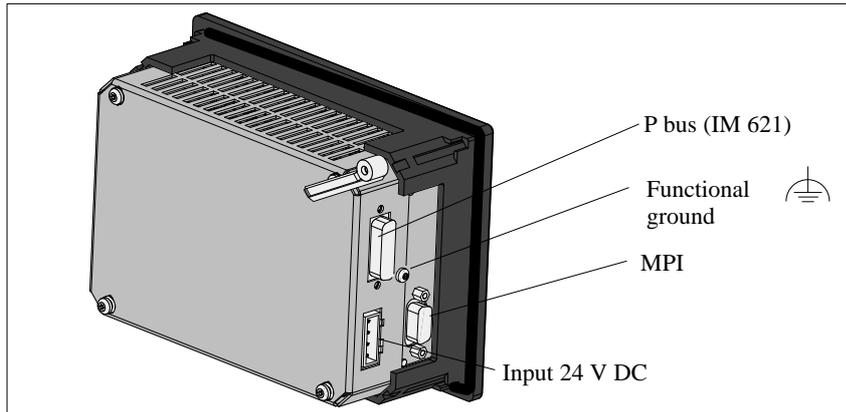

Figure 2-7 Power Supply Connectors for the C7-621
**C7-621 and C7-621 AS-i** Figure 2-7 illustrates the connection of the C7 power supply for a C7-621. The pinouts of the connectors are shown in the following tables.
**Functional Ground** Connect functional ground  (see Figure 2-7) to the closest available point of the closet chassis using a cable lug and a cable with a minimum cross-sectional area of 4 mm2.